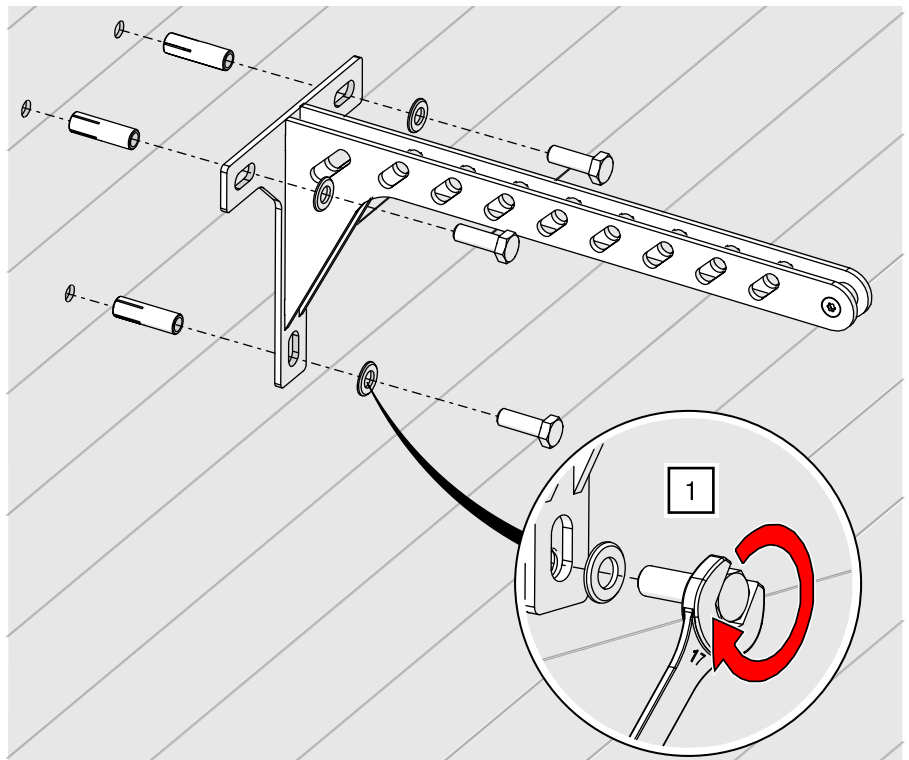

Fig. 67: TRUMPF 95 wall mount bracket – Mounting
1. Screw the wall mount bracket to the wall using the appropriate mounting material for the surface (assembly according to the manufacturer's instructions; example concrete wall – see Fig. 67).